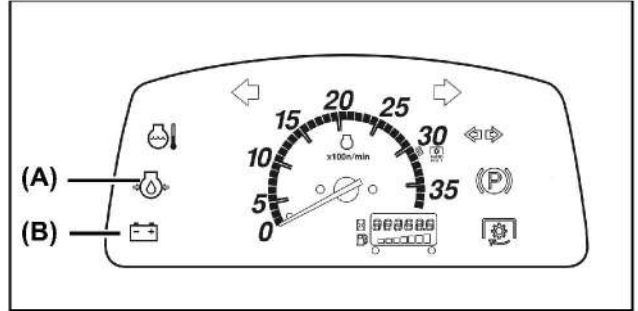

Fig 7-14
- The engine oil pressure warning light illuminates. (Fig 7-14, A)
- The alternator/battery charging light illuminates. (Fig 7-14, B)